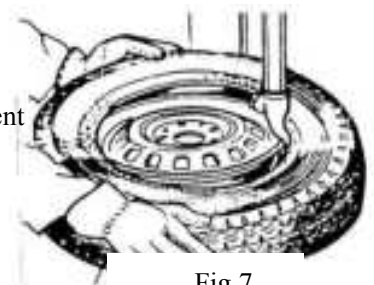

Fig 7
5) Move the tyre so that the bead passed below the front section of the mounting head and is brought up against the edge of the rear section of the mounting head. (Fig 7)